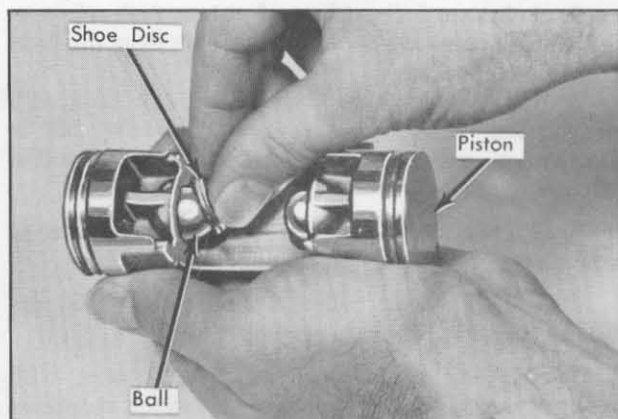

Fig. 1-85 Installing Shoe Disc
7. Lubricate cavity of a zero shoe disc with refrigeration oil and place shoe disc over ball in front end of piston, Fig. 1-85. Front end of piston has an identifying notch in casting web. Piston rings should not be installed at this time.